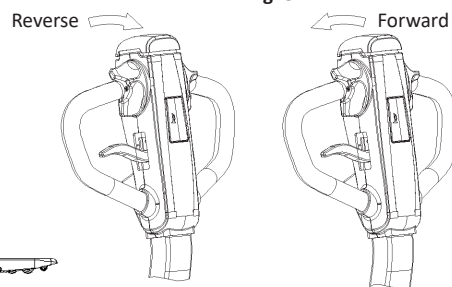

Fig. 10
2. Rotate the accelerator to start the unit slowly. (Fig. 10)